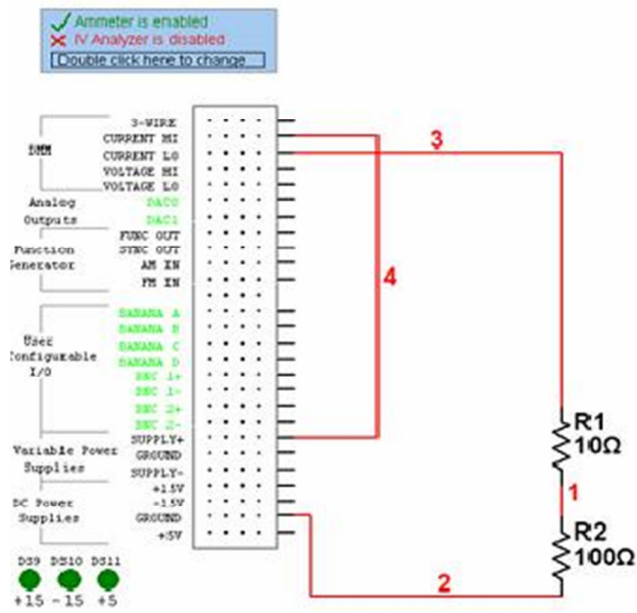

Figure 6
- Construct the circuit as shown in Figure 6.
- Complete the table below figure 6.